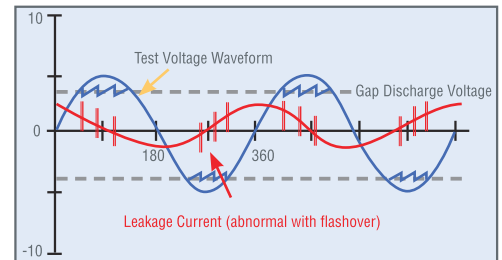

Figure 2: Waveform with Flashover
**Glow Discharge and Arc Discharge** : When a high voltage is applied to an insulation material, a portion of the material may have electrical discharges. The high voltage may make the insulation material lose its insulation capability and cause transient or discontinuous discharges. This can form a carbonized conductive path through the insulation, or damage the product. As Shown in Figure 2, Glow discharge or Arc discharge cannot be detected by monitoring only the leakage current, but can be detected by Flashover detection - which is monitoring the change rates of the test voltage or the leakage current. This can be used for sorting out defective products. Flashover detection is one of the most indispensable test items in electrical safety testing.